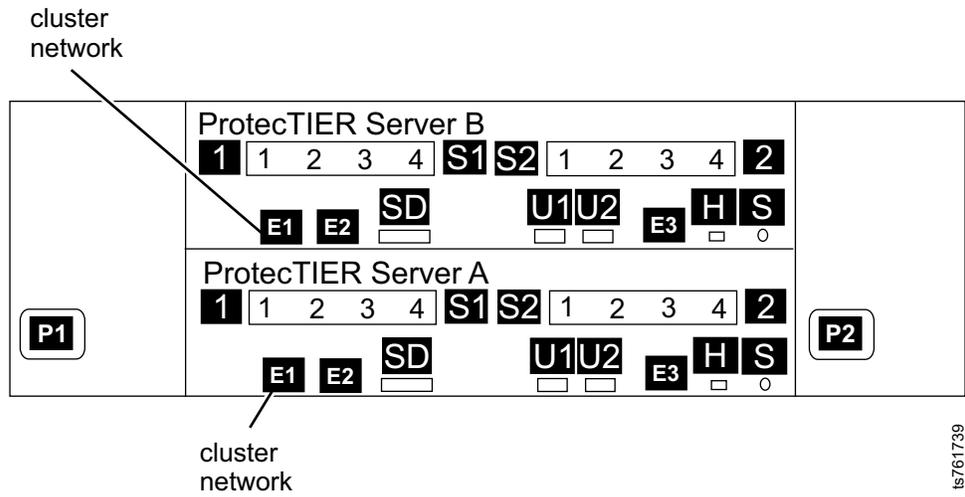

Figure 32. Server B customer host network Ethernet ports for 1 Gb OpenStorage configuration, FC 3456
- b. Remove customer host network Ethernet cables from Server B ports that are labeled **7 - 12** , **15** , and **16** in Figure 32. Not all of these connections might exist, depending upon the customer.